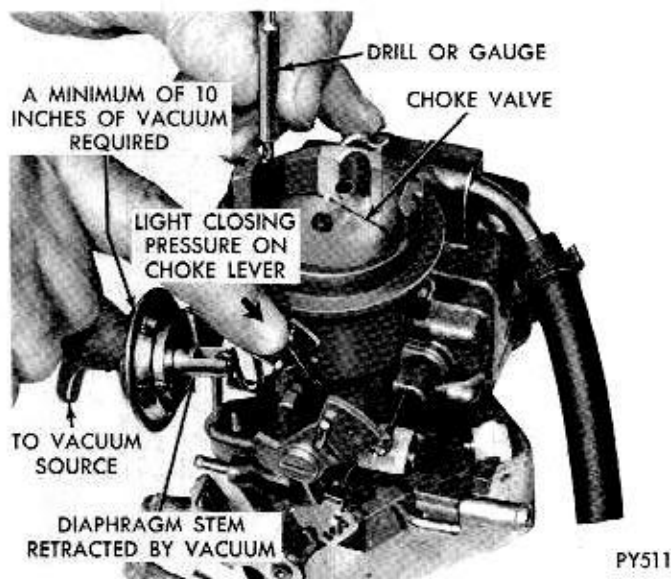

Fig. 12—Checking Choke Vacuum Kick Setting
(2) When using an auxiliary vacuum source, disconnect vacuum hose from carburetor and connect it to hose from vacuum supply with a small length of tube to act as a fitting. Removal of hose from diaphragm may require forces which damage the system. Apply a vacuum of 10 or more inches of mercury.
(3) Insert specified drill (refer to Specifications) between top of choke valve and wall of air horn (Fig. 12). Apply sufficient closing pressure on lever to which choke rod attaches to provide a minimum choke valve opening without distortion of diaphragm link. Note that the cylindrical stem of diaphragm will extend as internal spring is compressed. This spring must be fully compressed for proper measurement of vacuum kick adjustment.
(4) An adjustment will be necessary if a slight drag is not obtained as drill is being removed. Shorten or lengthen diaphragm link to obtain correct choke opening. Length changes should be made carefully by bending (open or closing) the bend provided in diaphragm link. **CAUTION: DO NOT APPLY TWISTING OR BENDING FORCE TO DIAPHRAGM.**
(5) Reinstall vacuum hose on correct carburetor fitting. Return fast idle screw to its original location if disturbed as suggested in Step No. 1
(6) Make following check. With no vacuum applied to diaphragm, the **CHOKE VALVE SHOULD MOVE FREELY** between open and closed positions. If movement is not free, examine linkage for misalignment or interferences caused by bending operation. Repeat adjustment if necessary to provide proper link operation.